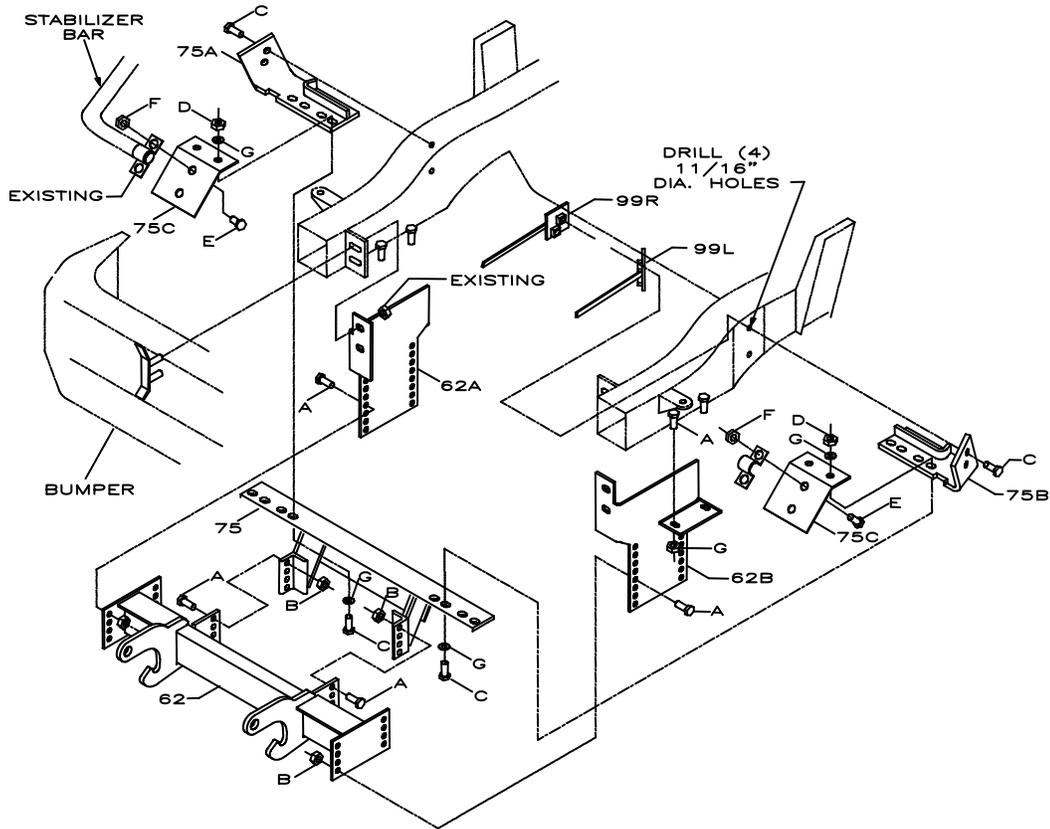

Figure 1
1. Remove the front bumper. If the truck is equipped with a front stabilizer bar, remove the stabilizer frame mounts, allowing the stabilizer bar to hang freely. The stabilizer bar will be reattached later. Position the push beam support plates (Ref. 62A and 62B, Fig. 1) to the front frame rails of the truck. Using the 1½"- 13 x 1- ½" bolts, ½" self locking nuts, and ½" flat washers provided, bolt the PUSH BEAM SUPPORT PLATES in place (see Fig. 1). Fasteners should only be finger tight.
2. Bolt the PUSH BEAM (Ref. 62, Fig. 1) in place as shown using ½" – 13 x 1- ½" hex head bolts and self locking nuts provided.
3. Attach the RIGHT FRAME MOUNT (Ref. 75A, Fig. 1) and the LEFT FRAME MOUNT (Ref. 75B, Fig. 1) to the vehicle frame using 5/8" – 11 x 2" hex head bolt and NUT PLATES (Ref. 99R and 99L, Fig. 1). Fasteners should only be finger tight. Bend the remaining portion of the nut plates around the frame horn.